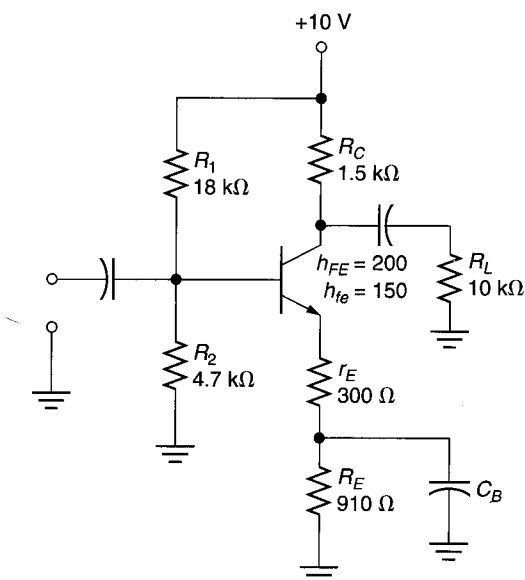

FIGURE 9.20
Determine the value of  $A_v$  for the amplifier in Figure 9.20.
Assume that the amplifier in Figure 9.20 has values of  $R_E = 820 \Omega$  and  $r_E = 330 \Omega$ . Determine the value of  $A_v$  for the circuit.
Determine the value of  $Z_{in}$  for the amplifier shown in Figure 9.20.
4. What effect (if any) would removing the bypass capacitor in Figure 9.20 have on the circuit's voltage gain? Explain.